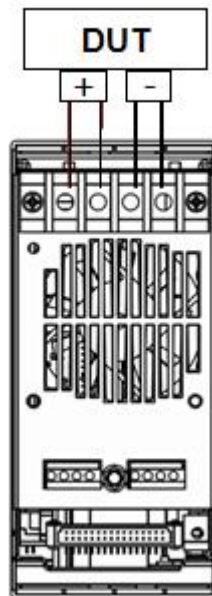

Figure 11 - Connection of Load and Device Under Test (DUT)
Before connecting the device to be measured to the electronic load, please remove the cover on the output terminals of the load and cover it after completing the connection. Please pay attention to the type, length, and polarity when wiring. Avoid using wires of minimum specification of heating, which are unable to supply good load regulation. Generally speaking, if the wires are short enough, they can control a voltage drop of less than 0.5 V. In addition, bonding them together can reduce induction and noise. Connect wire from positive terminal of module to positive terminal of device. Similarly, connect the corresponding negative terminal. Figure 11 illustrates a typical connection of the module with the device to be measured.
**WARNING :** Each terminal can carry up to 30 A current. Double-terminal connection is needed when the input current is more than 30 A. Refer to Figure 11 - Connection of Load and Device Under Test (DUT) for double-terminal connection.